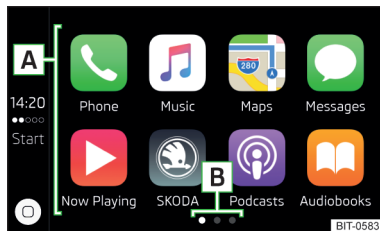

Fig. 190
- In the Apple CarPlay main menu connection select the desired application in the field **A** » Fig. 190.